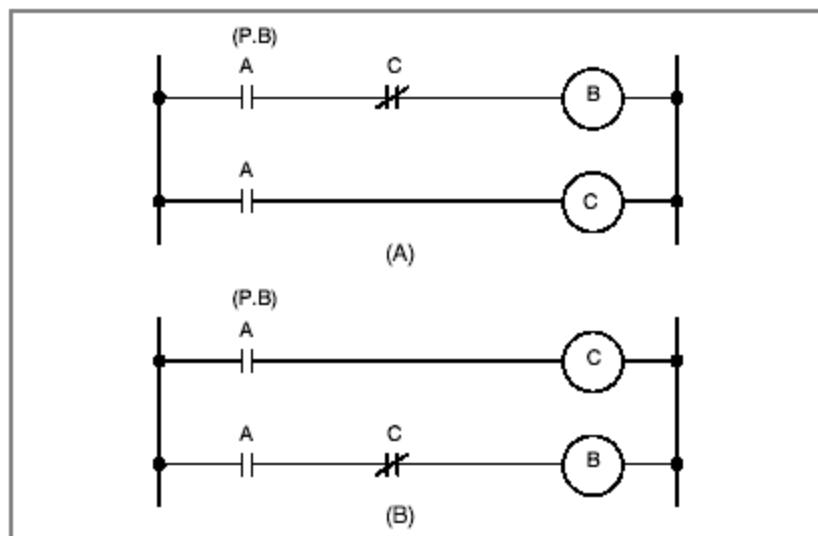

Fig. 1.4.1 (b) Circuit examples
- (1) For relay sequence circuit
(A) and (B) in Fig. 1.4.1 (b) operate in the same manner. When A (P.B) is turned on, current flows through coils B and C, turning on B and C simultaneously. After C is turned on (after relay operation time), B is turned off.
- (2) For PMC programming